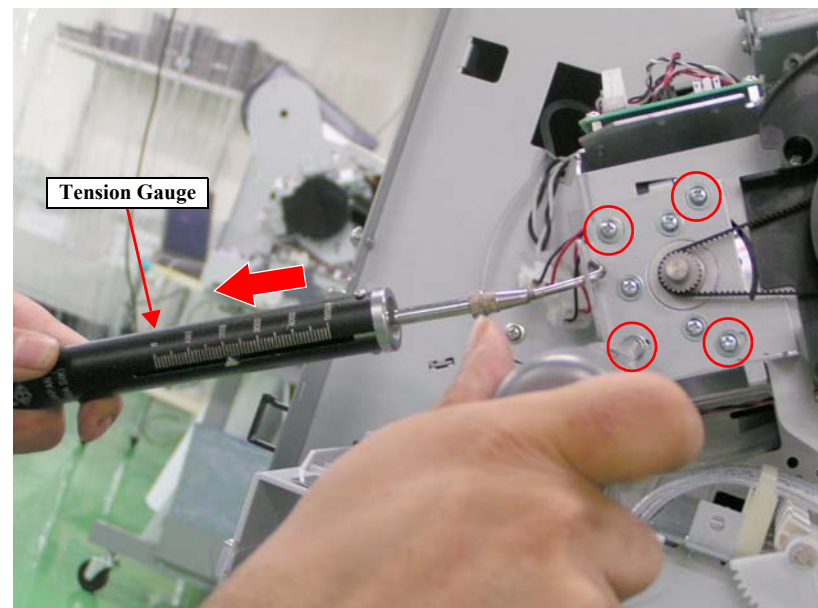

Figure 5-16. PF Timing Belt Tension Adjustment
3. Pull the gauge in the direction of the arrow shown in Figure 5-16 until the standard tension is obtained. And first tighten the two of the four screws located diametrically opposite each other.